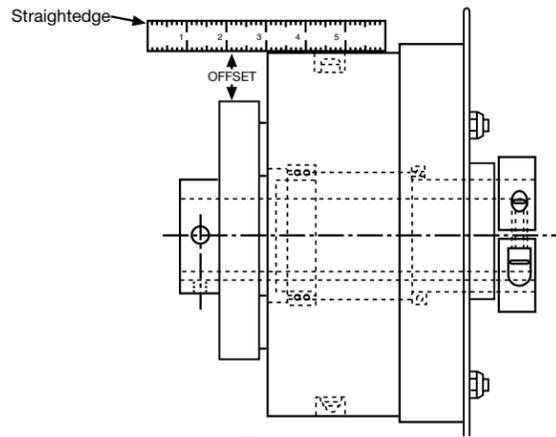

Figure 11
- Place a straightedge across the clutch housing and coupling flange as shown in Figure 11.
- a. Place a straightedge across the clutch housing and coupling flange as shown in Figure 11.